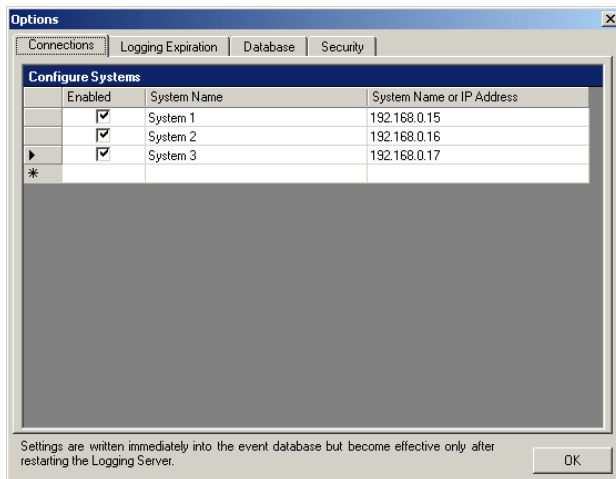

figure 49.5: Options window
- 2 Click *File > Options*. A screen similar to the one in figure 49.5 appears.